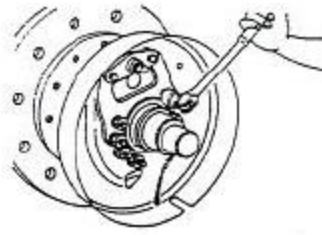

Figure 6
(6) Remove the E-shaped retaining ring for the brake cable on the brake base plate ,then remove the bolts that mount the brake base plate and remove the brake base plate from the drive axle .as figure 6